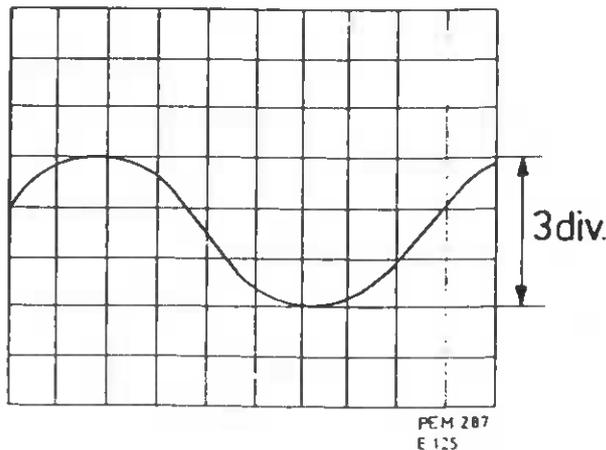

Fig. 5. Measuring the amplitude
- Measure the distance between the peaks, e.g. 3 div. (see Fig. 5).